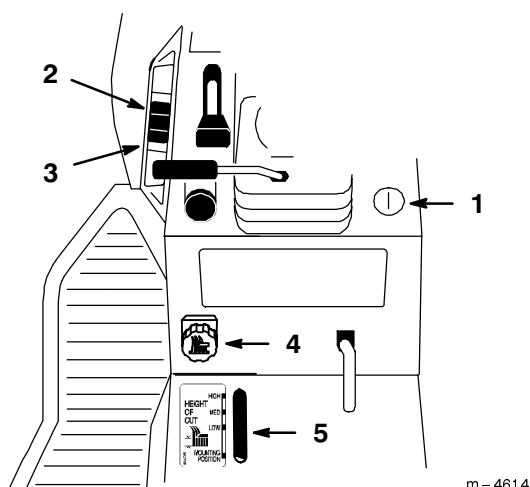

Figure 11
The attachment power lift (Fig. 11) is used to raise and lower attachments.
1. Turn key to the “ON” or “RUN” position (Fig. 11).
2. Push the lift switch in the “UP” direction to raise the attachment lift (Fig. 11). This will lift and hold the attachment in the up, or raised position.
2. Push the lift switch in the “DOWN” direction to lower the attachment lift (Fig. 11). This will lower the attachment lift.
The Dial-A-Height control (Fig. 11) is used to limit the downward travel of the attachment. The Dial-A-Height knob is rotated to change the location of this stop, up or down.
1. Raise the attachment lift lever; refer to Raising Attachments. In the raised position the Dial-A-Height knob (Fig. 11) can be rotated to change the stop location. Turn clockwise to raise and counterclockwise to lower the height of the attachment.
2. The Dial-A-Height indicator (Fig. 11) will show the change, high to low, in attachment lift height as adjustment is made.